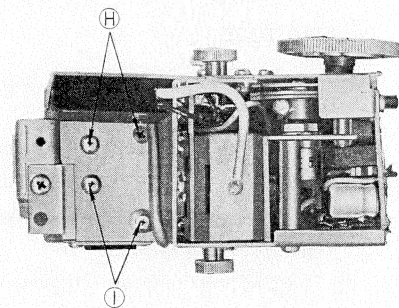

Fig. 3-7
- 3) Remove the two screws **H** shown in Fig. 3-7.
- 4) Remove the two screws ⑩ and two screws ① shown in Fig. 3-7.